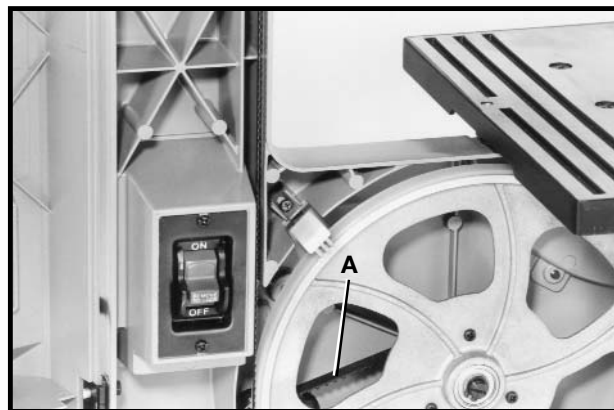
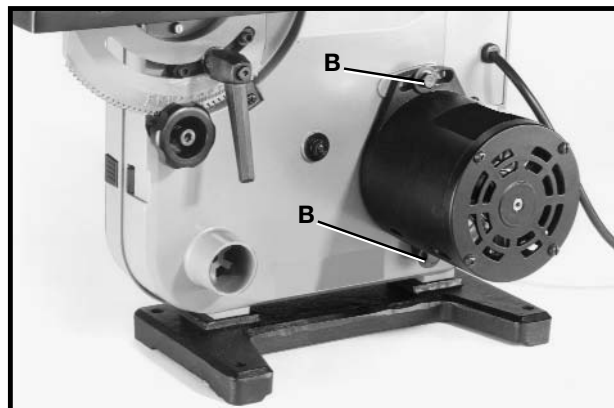

Fig. 29
Fig. 30
The belt (A) Fig. 29, drives the blade wheel pulley from the motor pulley. The belt (A) is properly tensioned when there is approximately 1/4 in. deflection in the center span of the belt using light finger pressure. If belt tension needs to be adjusted, loosen two screws (B) Fig. 30, and rotate motor accordingly. Tighten screws (B) when adjustment is completed.